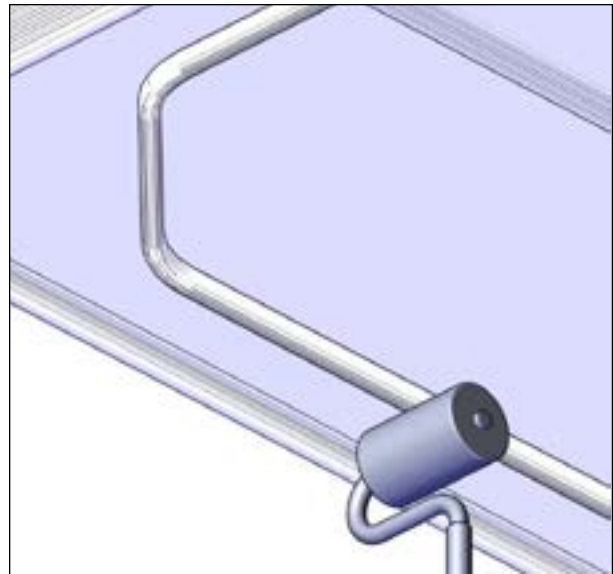

FIGURE 78: APPLY PRESSURE WITH ROLLER
12. Once satisfied that the seal is released, lift up the cover 36" (91 cm) high. Apply a minimal pressure of 15 psi (103 kPa) on the seal with the roller as shown in Figure 78 to properly bond the adhesive to the underside of the cover.